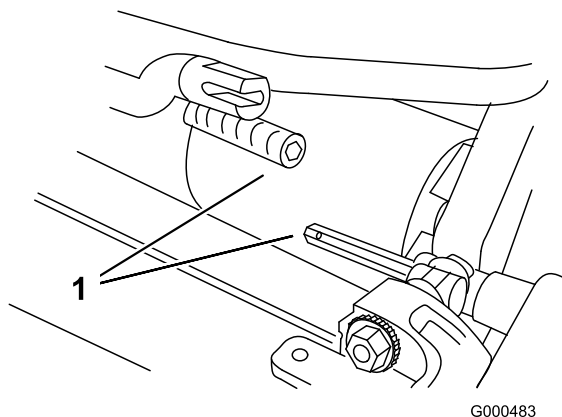

Figure 4
3. Push the cutting unit under the traction unit and to the left to engage the transmission coupling (Figure 4).